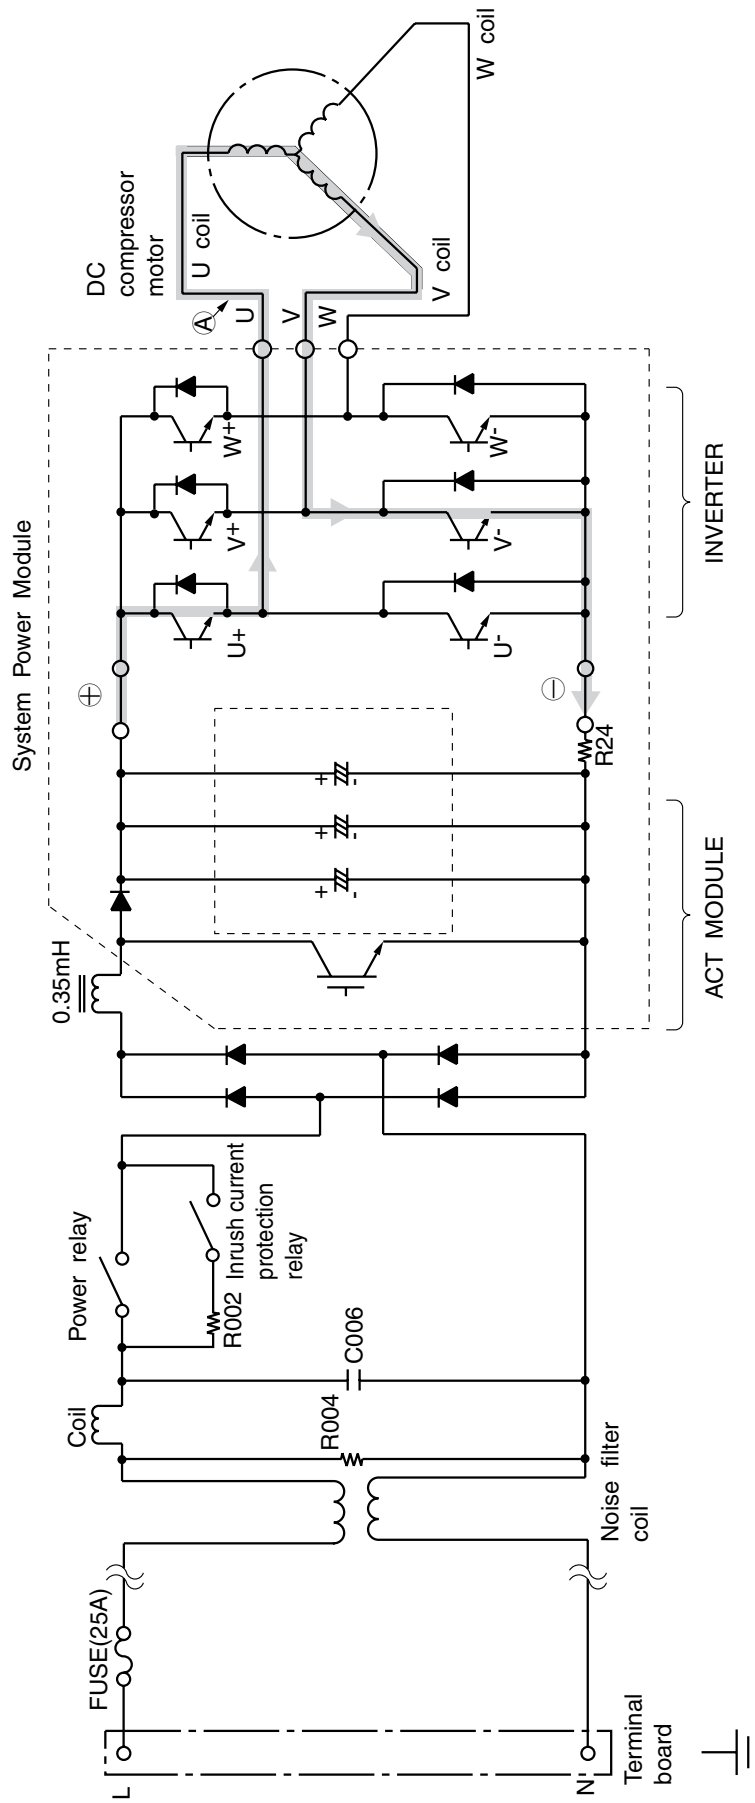

Fig. 3-1 System power module circuit (U⁺ is ON, V⁻ is ON)
- Fig. 3-1 shows the system power module and its peripheral circuits. (Current ACT module and power module are combined into one unit.) The three transistors on the positive ⊕ side are called the upper arm, and the three transistors on the negative ⊖ side, the lower arm.